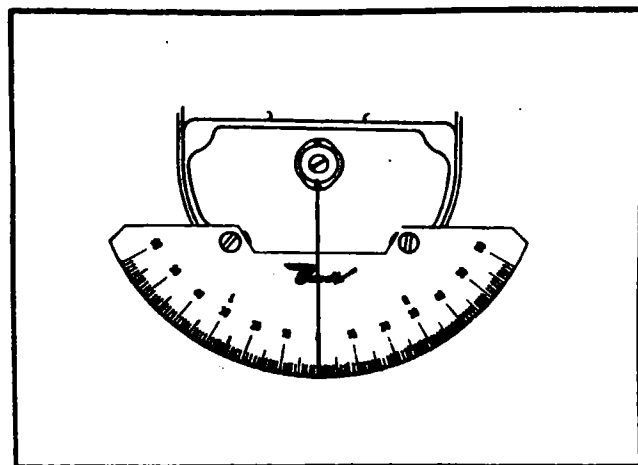

Figure 12-8. Template and Pointer Attached to Breaker Compartment
- d. Attach timing template to breaker compartment as shown in figure 12-8, using 8-32 screws 1/4 inch long.